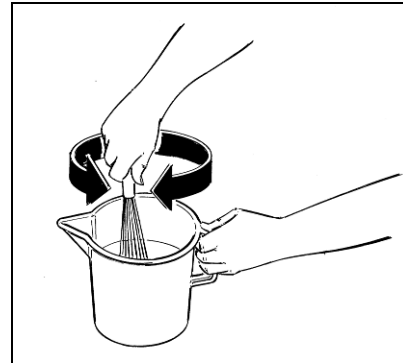

Fig. 4
- Dilute and mix the preparation in a separate container according to the manufacturer's instructions (fig. 4).